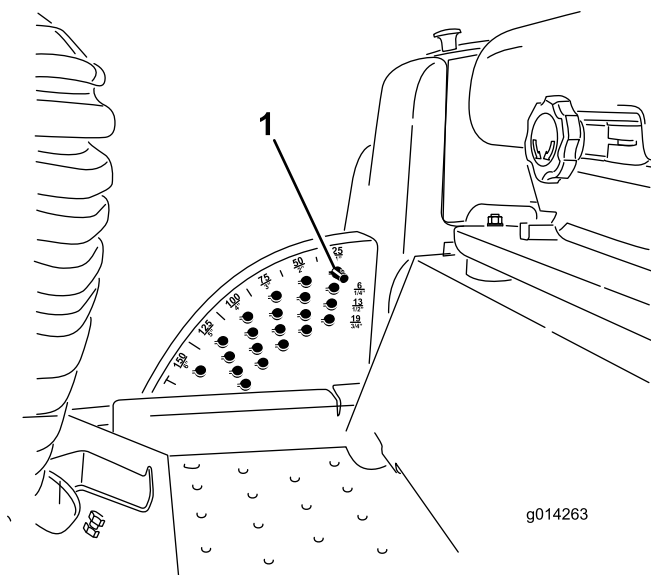

Figure 2
3. Note the location of the Height of Cut pin in the Height of Cut bracket for re-assembly purposes (Figure 2). Remove the Height of Cut pin from the Height of Cut bracket.